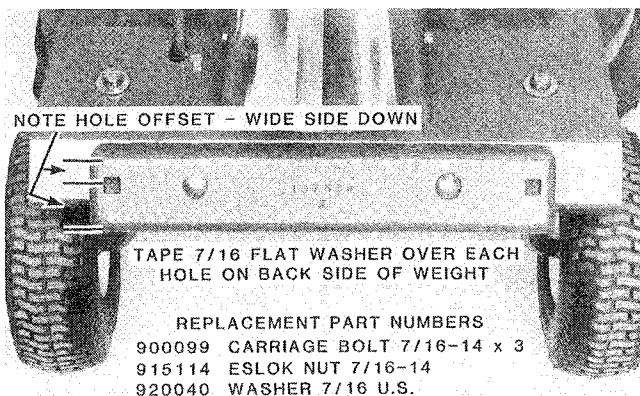

FIG. 9. Optional Front Weight Installation
INSTALL OPTIONAL FRONT WEIGHT (Fig. 9)
After every 10 hours of operation, inspect that all parts of the bagger and all fasteners are in good condition. Pay particular attention to the condition of the bag, discharge elbow, tube and top — replace these parts if torn, cracked or broken. Also inspect the high lift blade after every 10 operating hours. Refer to Figure 9, and inspect for cracked lift tabs or severely worn hardware. Wear will be more significant in dry areas having sandy soil.
2. Install new lift tabs as shown in Fig. 9; use ONLY the hardware supplied with the replacement lift tab. Tighten hardware to the specified torque value.